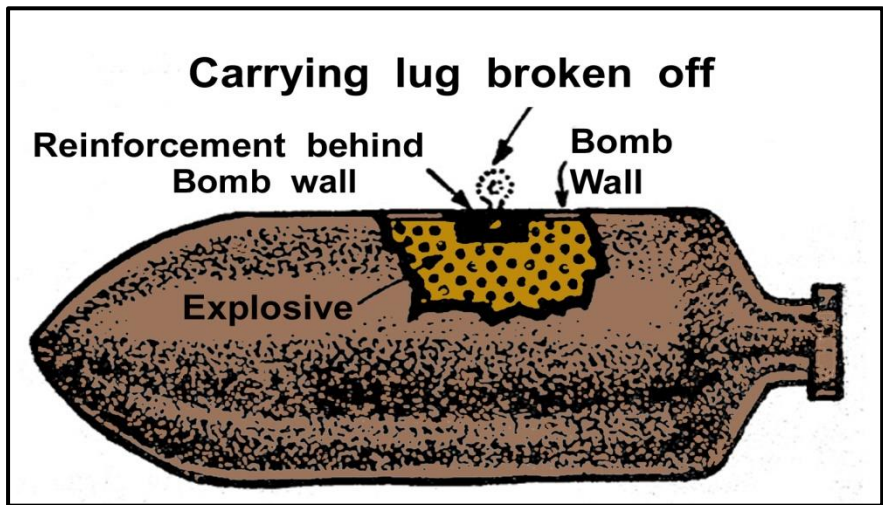

Fig 47-2: Bomb Wall Reinforce
- b. Examine the surface of the casing to ensure that a carrying lug or other external fitting has not broken off. The bomb wall is usually reinforced at such positions (Fig 47-2).